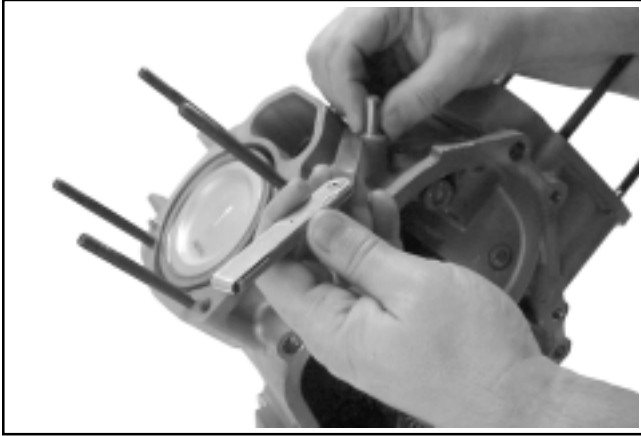

Figure 11-8. Assembly of Nylon Washer, Retainer, and Setting the End play.
3. Install the nylon washer onto the governor cross shaft, then start the push-on retaining ring. Hold the governor shaft up in position, place a **0.25 mm (0.010 in.)** feeler gauge on top of the nylon washer, and push the retaining ring down the shaft to secure. Remove the feeler gauge, which will have established the proper end play. See Figure 11-8.